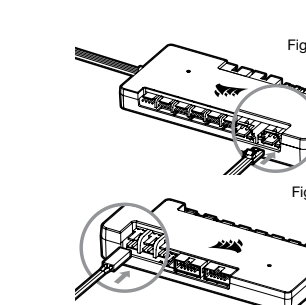

Figure 4
5. Connect the XD3/XD5 RGB's temperature sensor into temperature Port #1 on your CORSAIR iCUE Commander PRO / CORE XT (Figure 4).
5. 将XD3 / XD5 RGB的温度传感器连接到CORSAIR iCUE Commander PRO / CORE XT的1号温度端口(图4)。